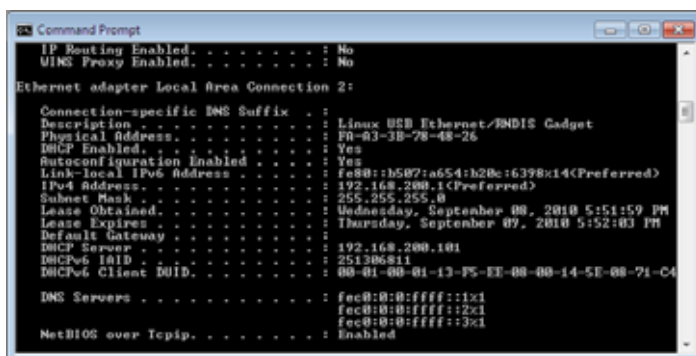

Figure 12. Command Prompt Window – Adapter IP Address Information
13. Enter **ipconfig /all**. The adapter IP addressing information displays (see Figure 12).